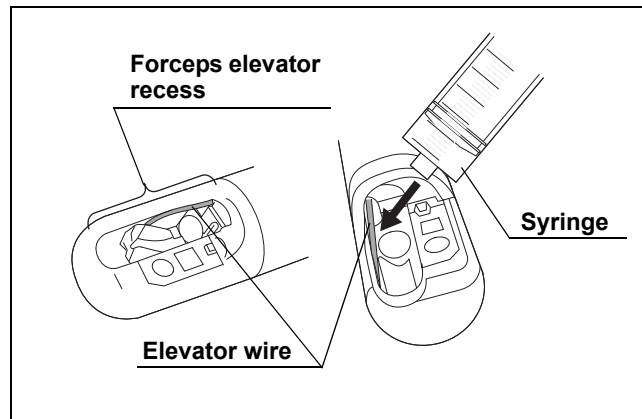

Figure 5.67
14. Bring the tip of the 30 ml syringe obliquely close to the elevator wire in the forceps elevator recess, and flush the elevator wire with 30 ml of the rinse water, keeping the distal end of the endoscope immersed in the rinse water (see Figure 5.67).